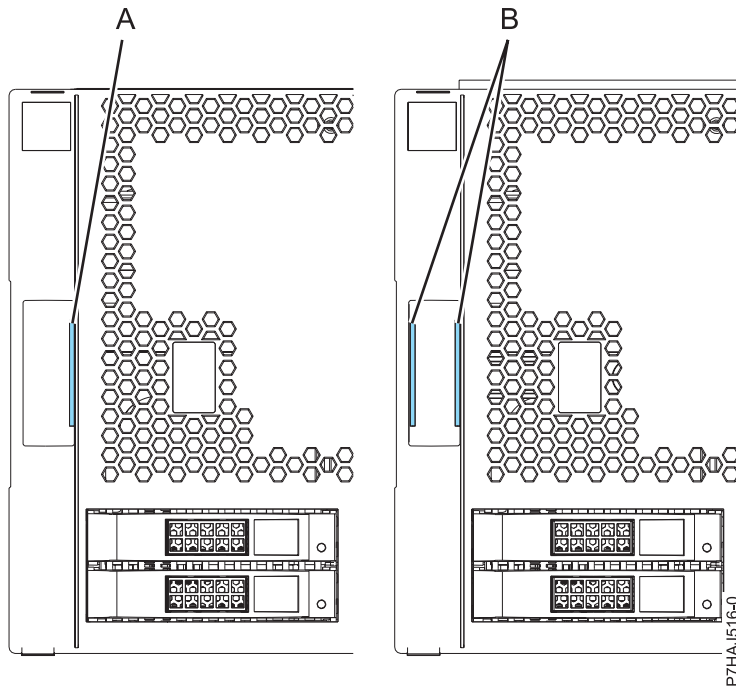

Figure 8. Identifying the older and newer covers
**Note:** The older covers shipped before 1 March 2011 can be identified by a single blue stripe (A) on the cover assembly latches. Newer covers shipped after 1 March 2011 have two blue stripes (B) on the cover assembly latches. See Figure 8.